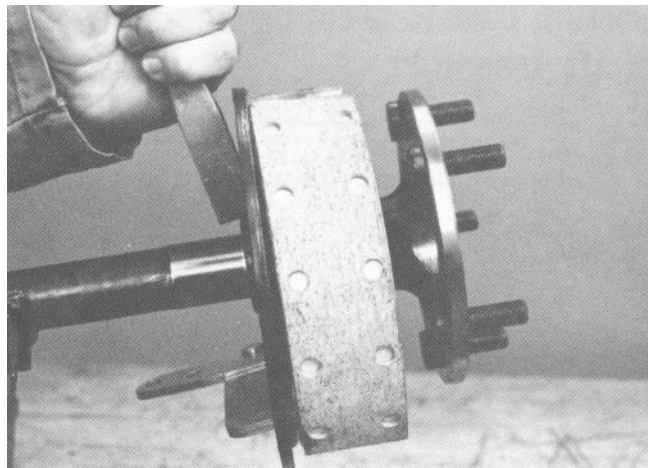

Figure 11
7. Place a chisel in position across the drilled hole and strike sharply to break the retainer (Fig. 11). Remove and discard the retainer.